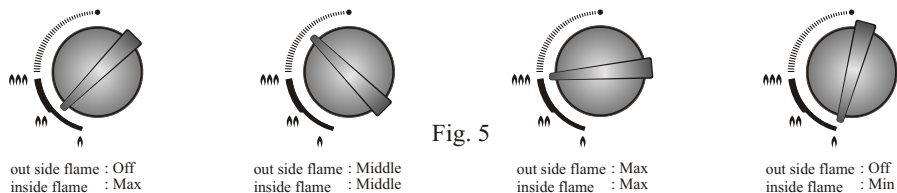

Fig. 5
- Flame can be controlled at four steps as following (Fig. 5).